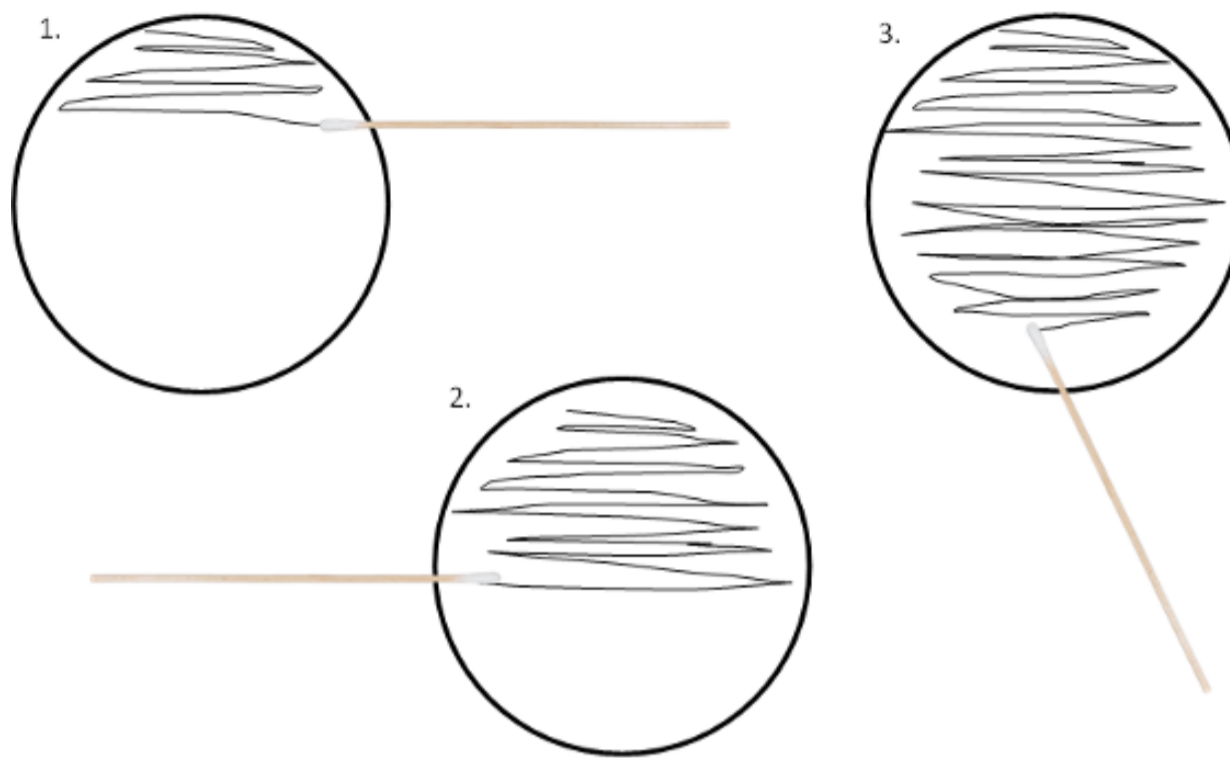

Figure 2.2 Swabbing Pattern on Petri Plate. Image by Author
4. Take the swab back to the lab without touching anything else along the way and streak the PDA plate as shown in figure 2.2.